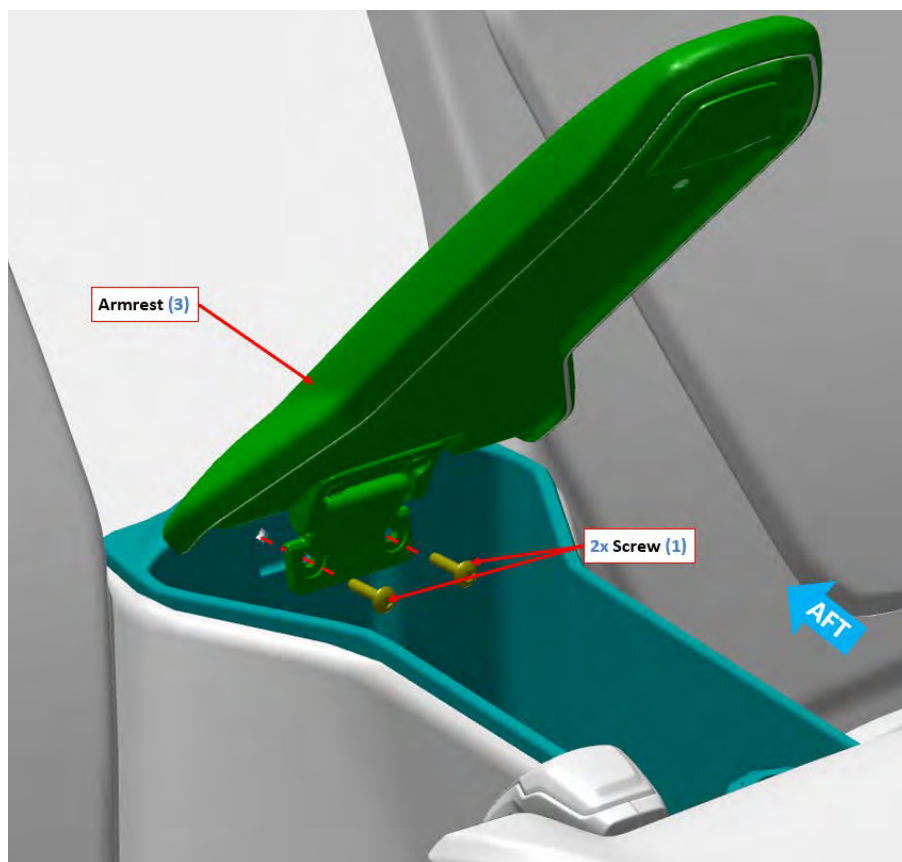

FIGURE 9-4
2. Remove 2X Screws which secure the center armrest. Retain all fastening hardware. See Figure 9-4.
3. Install 2x screws which secure the center armrest. Apply ICA012078 lubricant and torque to 12 in-lbs. See Figure 9-4.